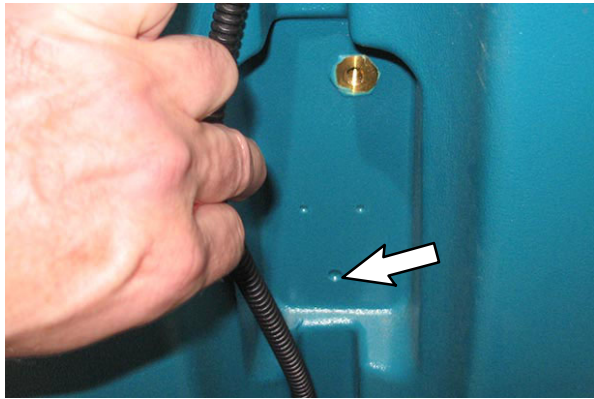

FIG. 11
10. Measure and mark location for the bottom 5/8 in. (16 mm) hole needed for the additional float switch (1) to be installed onto the back of the recovery tank. Center hole in recessed area of recovery tank and 1 in. (25.4 mm) from bottom edge of recessed area. (Fig. 11)
11. Drill a 5/8 in. (16 mm) hole into the back of the recovery tank marked in the previous step. (Fig. 11)
12. Use the lock nut and gasket to install the remaining new liquid level sensor (1) and float switch protector bracket (2) into the back of the recovery tank where the 5/8 in. (16 mm) hole was drilled in the previous step. (Fig. 11)
13. Connect the jumper harness (3) to the wire harness connection previously attached to the old float sensor.
14. Cut enough of the portion of conduit covering the cable end previously connected to the old sensor away so there is enough cable for the jumper harness (3) to reach the lower float switch (1) installed into the back of the recovery tank.
15. Route the wire harness/ jumper cable (3) to the lower float sensor (1) installed onto the back of the recovery tank and connect the jumper harness to the float sensor.
17. Test the machine. Observe the area where the new liquid level sensors (1) were installed for leaks.